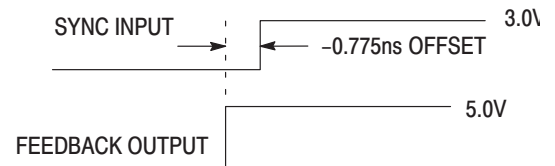

Figure 2. Depiction of the Fixed SYNC to Feedback Offset (t_{PD}) Which is Present When a 1MΩ Resistor is Tied to V_{CC} or Ground
- A 1MΩ resistor tied to either Analog V_{CC} or Analog GND as shown in Figure 2 is required to ensure no jitter is present on the MC88915T outputs. This technique causes a phase offset between the SYNC input and the output connected to the FEEDBACK input, measured at the input pins. The t_{PD} spec describes how this offset varies with process, temperature, and voltage. The specs were arrived at by